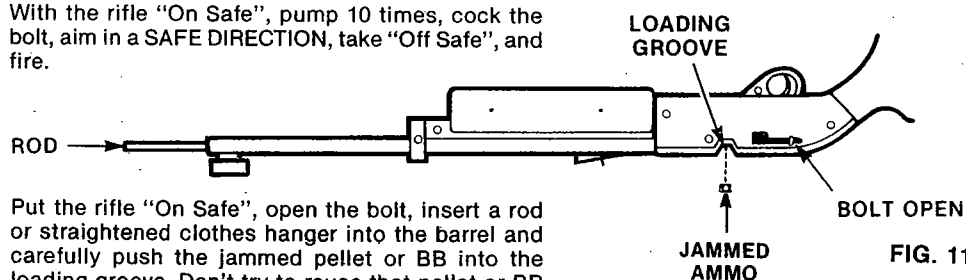

FIG. 11
- Put the rifle "On Safe", open the bolt, insert a rod or straightened clothes hanger into the barrel and carefully push the jammed pellet or BB into the loading groove. Don't try to reuse that pellet or BB again. (Fig. 11)